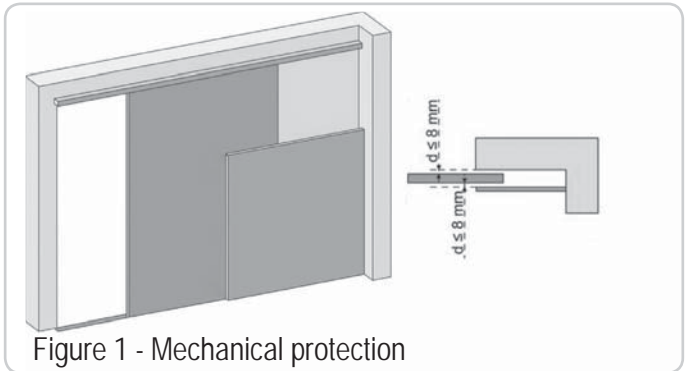

Figure 1 - Mechanical protection
<p>ZONE 2* Risk of crushing with an adjoining fixed part</p>	<p>Obstacle detection built into the motorisation. It must be imperatively checked that the obstacle detection complies with annex A of the standard EN 12 453. Mechanical protection (see figure 1) or via safety distances (see figure 2)</p>
2.1 Product components - Fig. 1